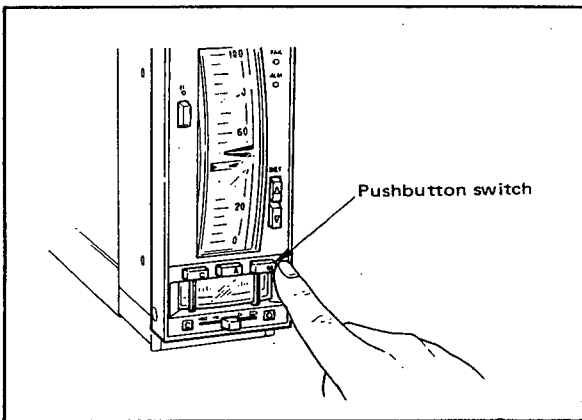

Figure 5-3-1. Selecting Manual Mode.
(1) Manual operation with the manual operation lever
a. Press the **M** mode transfer switch. (Its built-in indicator lamp comes on.) (See Figure 5-3-1.)